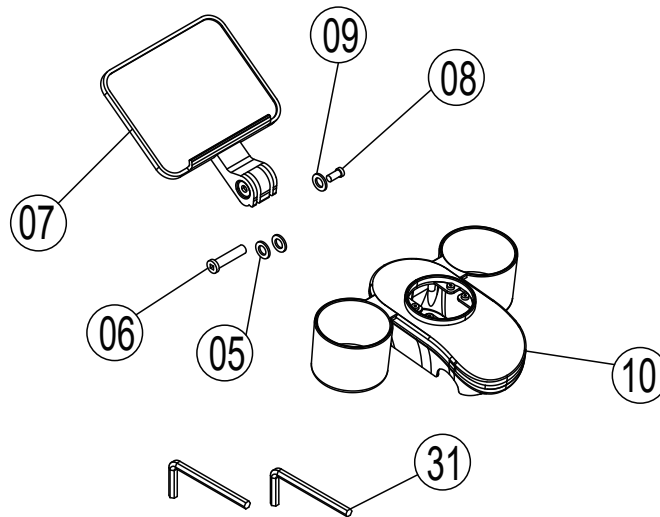

Figure 3
Stand with both hands against a wall or a tree, and place one foot behind the other. Keep the back leg straight with your heel on the ground, and lean toward the wall or tree. Hold for 10-15 seconds, then relax. Repeat 3 times for each leg (see Figure 3)
3.Align the No. 10 upper and lower covers with the No. 07 mobile phone holder grooves and put them in, then use No. 06 locking screws 8*35, No. 08 locking screws 6*12, two No. 05 flat washers Φ 16*18.5*1.5, one No. 09 flat washer 16*8.5*1, and use two No. 31 hexagonal wrenches (5mm) to lock them. As shown in Figure 3: